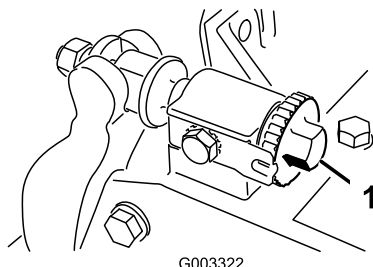
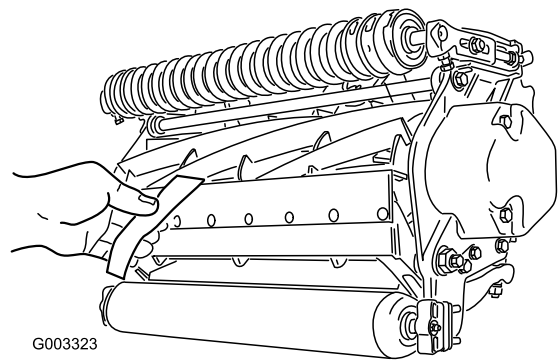

Figure 17
Figure 18
1. Position machine on a flat, level work surface. Make sure reel contact is removed by turning bedbar adjusting screws counterclockwise (Figure 17).
Important: Make sure nuts on back end of bedbar adjusting screws are not resting on the work surface (Figure 17).
3. At one end of reel, insert a strip of newspaper between reel and bedknife (Figure 18). While slowly rotating reel forward, turn bedbar adjusting screw (Figure 17) clockwise on same end of reel, one click at a time, until paper is pinched lightly, when inserted from the front, parallel to the bedknife. A slight drag will be noted as the paper is pulled.
5. After adjustment is accomplished, check to see if reel can pinch paper when inserted from the front and cut paper when inserted at a right angle to the bedknife (Figure 18). It should be possible to cut paper with minimum contact between the bedknife and the reel blades. If excessive contact/reel drag is evident it will be either necessary to back lap or regrind the cutting unit to achieve the sharp edges needed for precision cutting (Refer to the Toro manual for Sharpening Reel and Rotary Mowers, Form No. 80-300PT).